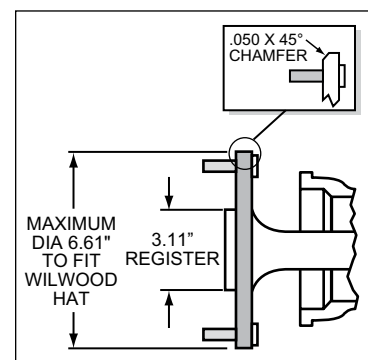

Figure 3. Axle Flange Maximum Dimension
- Axle center registration diameter is 3.11", Figure 3.
- Maximum axle flange diameter must be no larger than 6.61" w/.050" x 45° chamfer (Figure 3).